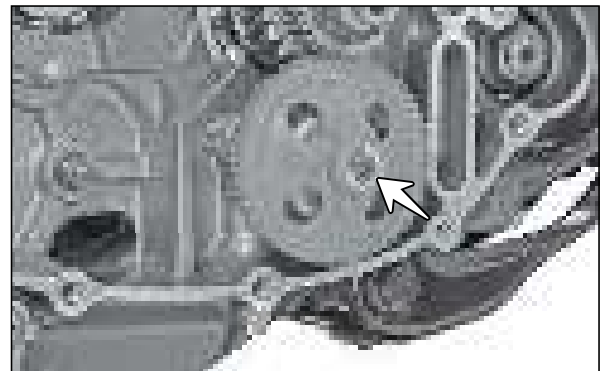

Fig. 3.122
- Remove the E-ring from the oil pump shaft and take out gear oil pump driven. (Fig. 3.122)